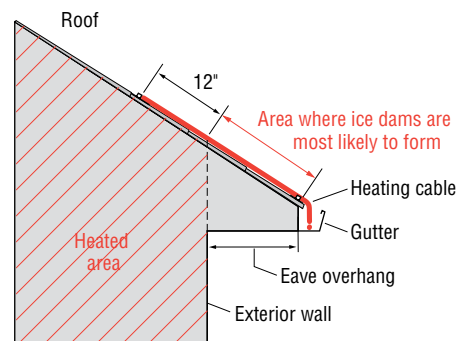

Figure 1.2 Side view of roof with WinterGard Wet system.
- Run heating cable up the roof until it is approximately 12 inches past the exterior wall into the heated area (see Figure 1.2 on page 3).
¹ See Figure 1.2
- Run the heating cable up the seam until it is approximately 12 inches past the exterior wall and over a heated area (see Figure 1.2 on page 3).